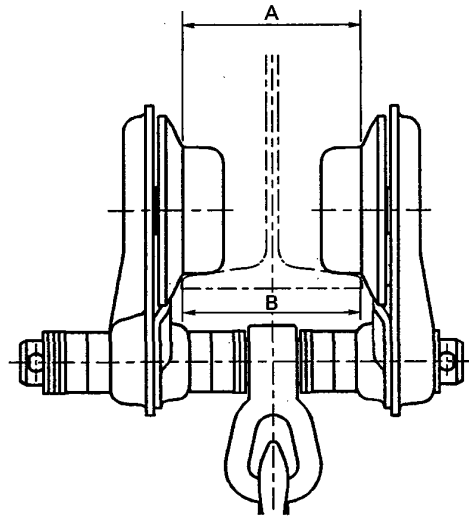

Fig. 3
- (1) Make sure that the direction is as shown in Fig. A to E.
- (2) The right and left side plates should be as far apart as possible, and the space between A and B should be approximately 4mm (Refer to Fig. 3).